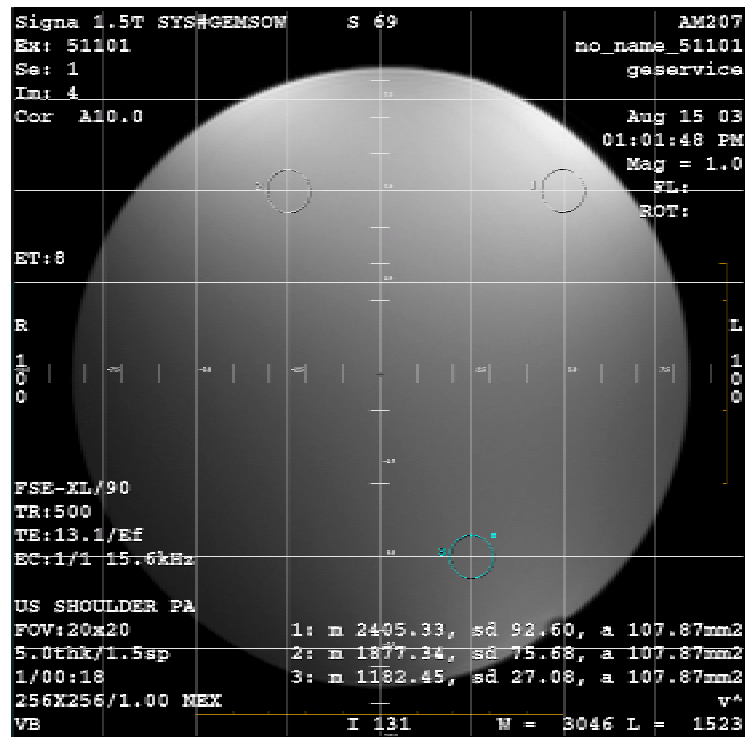

Figure 8: Signal phantom image.
8. Center the grid on signal image four, then draw three separate circles along the grid (see *Figure 8*).